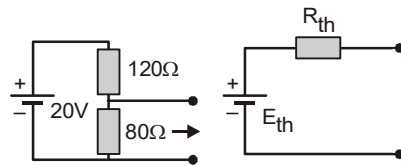

Fig. 1.149
- A voltage divider and its Thevenin's equivalent circuit is shown in the fig.1.149. What will be the value of E_{th} and R_{th}